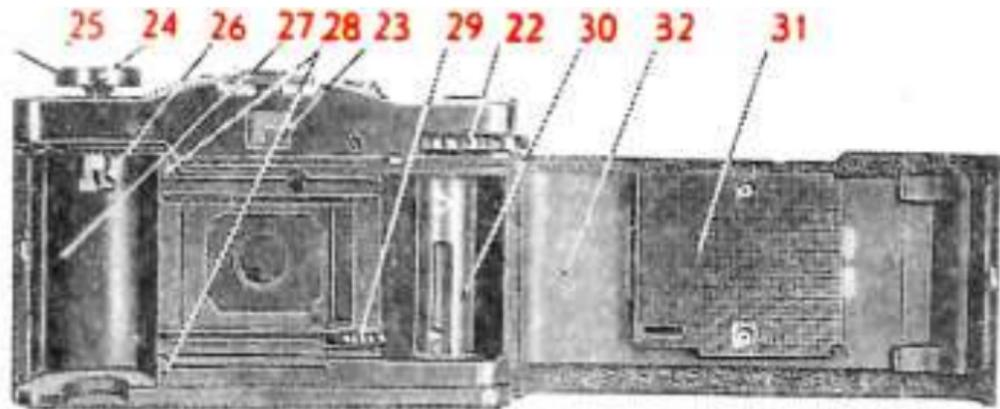
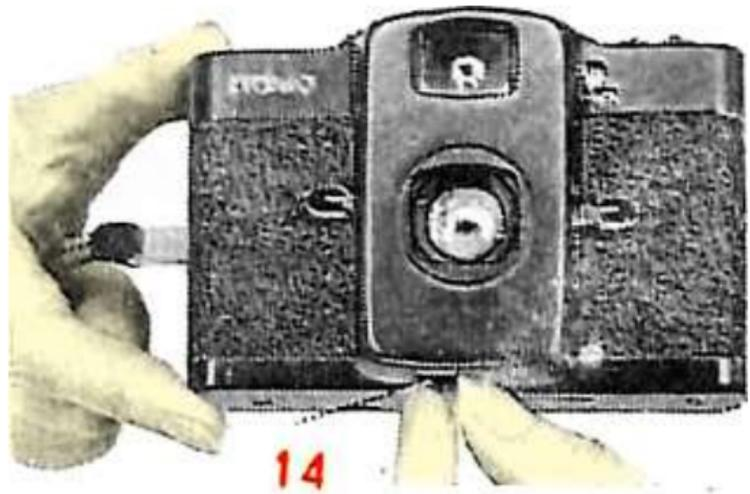
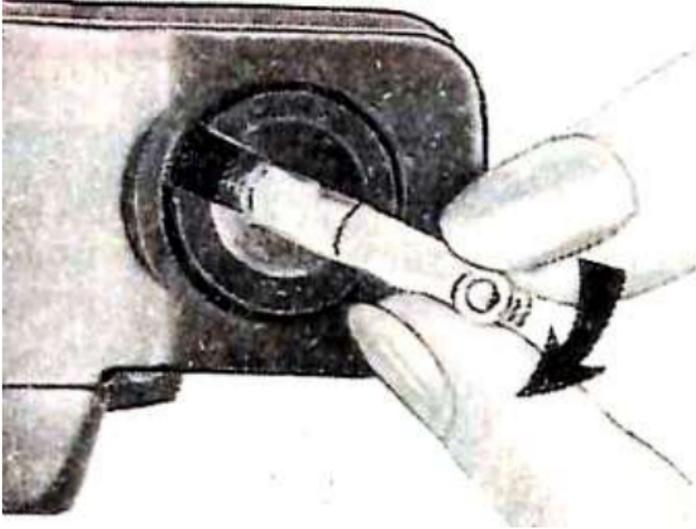

Fig. 5.
Fig. 6.
Fig. 14.
The cells installed check them for serviceability, for this aim, move curtains control key 14 so as is shown in Fig. 6. Open the viewfinder. Looking through the Inspection window 23 (Fig. 5), press down the release knob 10 (Fig. 2) until it is stopped slightly.
To Insert the cassette with film into the camera, swing out knob 25 (Fig. 5) of hand wheel 24 and pulling it upward as far as It goes open the camera back 32. Put the cassette into receptacle 27 so that a film leader is facing to the right.
Lower hand wheel 24 so that yoke 26 enters the cassette spool lug. Put the film leader (Fig 8) into the lot of the take-up spool so that film perforation engages into mesh with a tooth of take-up spool 30 (Fig. 5). Holding the cassette with film with your hand and rotating hand wheel 22 with the other hand, take up film slack. Make sure the film is positioned between limiters 28, that it is engaged with gear 29 and is fixed reliably at take-up spool 30.
After the slack is taken up, close camera back 32 (Fig. 5) and press it tightly to the body so that the back- is fixed.
Turn hand wheel 22 (Fig. 9) up to stop and press the release knob. Repeat the procedure twice or thrice till digit «1» appears in the frame counter window against the index. While pulling the film, watch rewind hand wheel 24 (Fig. 5). If the camera is loaded with the film correctly, hand wheel 24 should rotate at rotation of hand wheel 22.
Cock up the shutter with complete revolution of hand wheel 22 (fig. 5).
Cocking of the shutter and advance of the film are carried out in the camera simultaneously, with complete revolution of hand wheel 22 (Fig. 5). Sometimes, however, the complete revolution of hand wheel 22 is impossible because the film end is lacking for a full frame.
Do not force the hand wheel in this case, otherwise the film can break loose from the spool core. Press the film advance gear disengagement knob 15 (Fig. 4). Hinge away knob 25 (Fig. 5) and turn it in a direction pointed with the arrow (Fig. 14).
Rewind over, you will feel a slight jerk of the film and an easier run of handwheel 24 (Fig. 5).